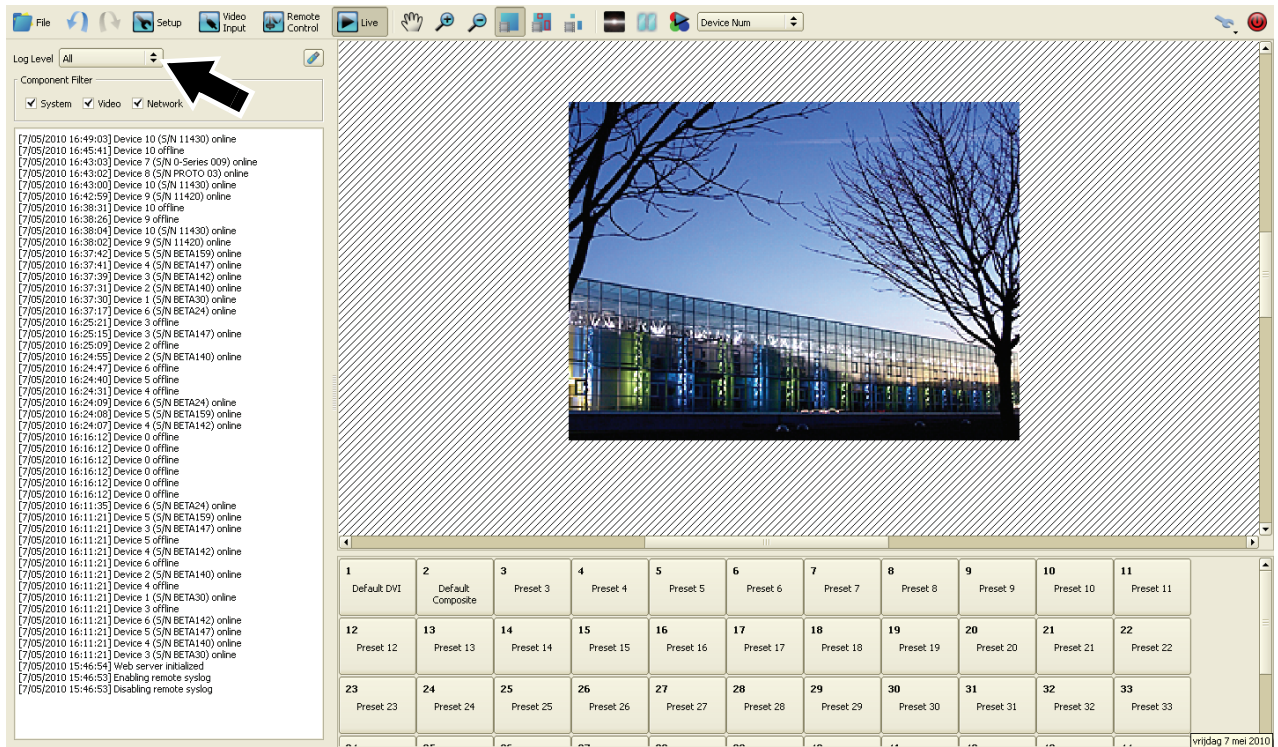

Figure 39: Live window
1. See Figure 39. Open the **Live** view and select **All** under **Log Level** (arrowed). The P3-100 keeps a running log of system events that can be useful during troubleshooting.